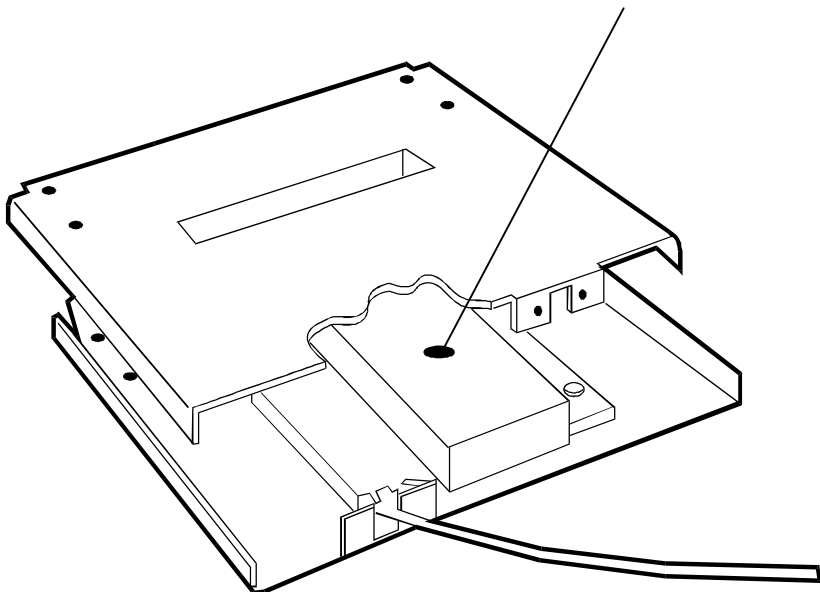

Figure 2
7. Install the new counterweight (P/N 38226-102) using the screw and washer from the old weight (Refer to Figure 2).